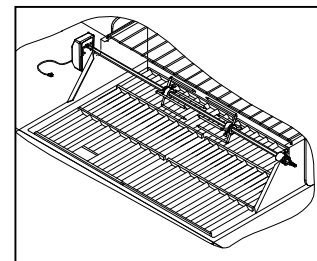

Fig.4
4. Place rotisserie rod into the motor, make sure rotisserie rod aligns with the motor correctly and shaft collar onto the right side panel of fire bowl. (See Fig.4)